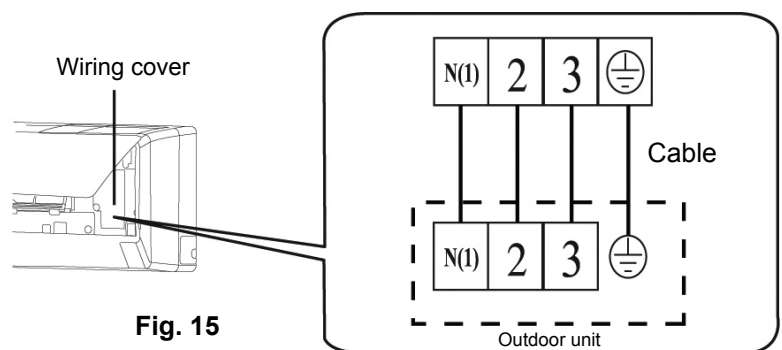

Fig. 15
2. Lift the indoor unit's panel up, remove the wiring cover and clamp as shown in (Fig.15).
3. Connect each conductor to the terminal of the indoor unit (N (1), 2 3, and Ground) based on the labels of each terminal (Fig. 15).
4. Use cable clamp to secure the cable (Fig. 15).